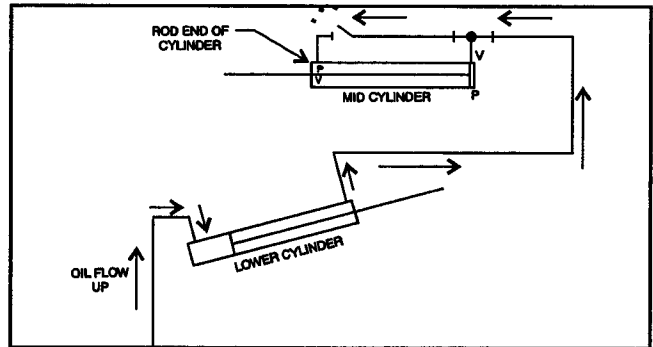

Figure 2-33. Port "P" Location.
1. Check oil level in the hydraulic oil tank (all booms must be retracted). See Figure 2-33 for location of bleeder fitting in pilot port "P" at rod end of mid cylinder.